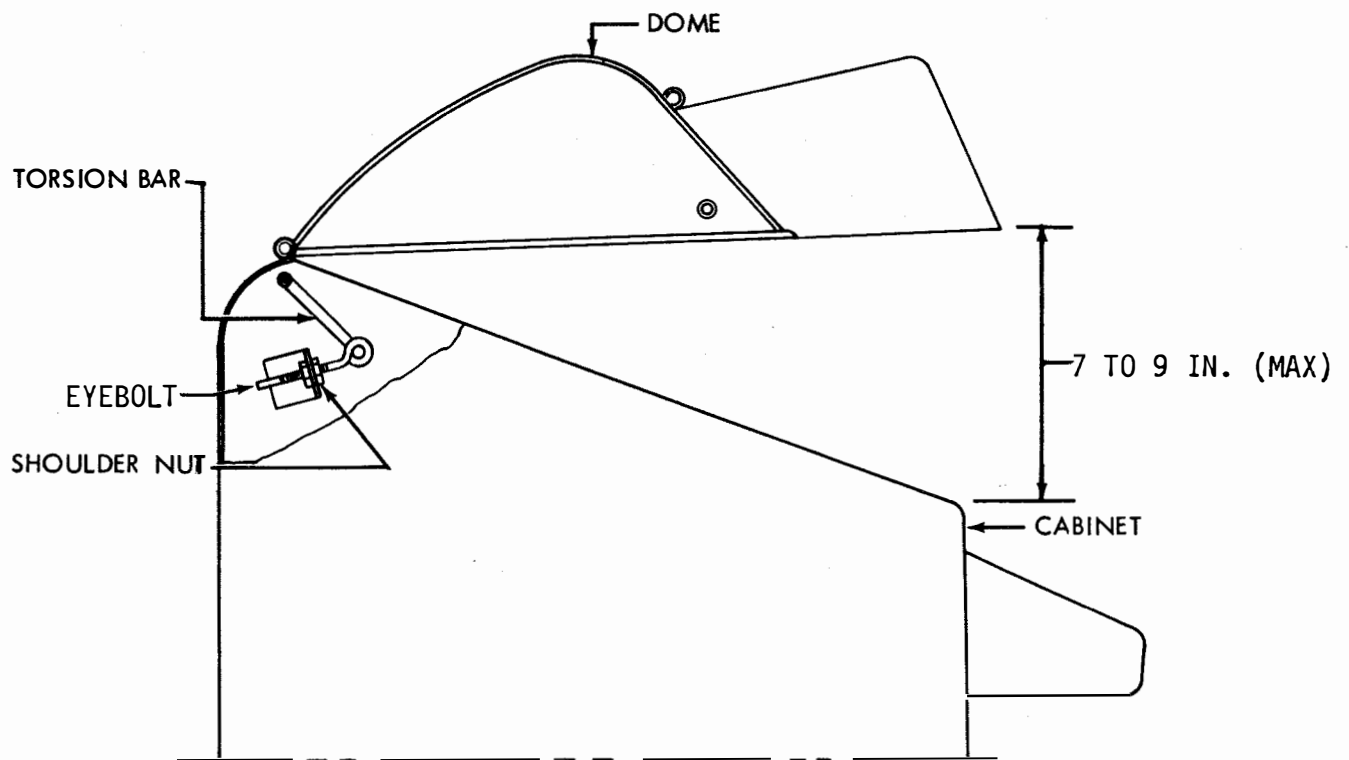

Figure 6-348. Torsion Bar
(1) Refer to Figure 6-348.
(2) When closed dome is released from its latches, the torsion bars should lift dome 7 to 9 inches maximum above front edge of cabinet.
(3) When dome is started down by slight push from its fully open position, it should not close or latch.
(4) To adjust, turn shoulder nut on eyebolt